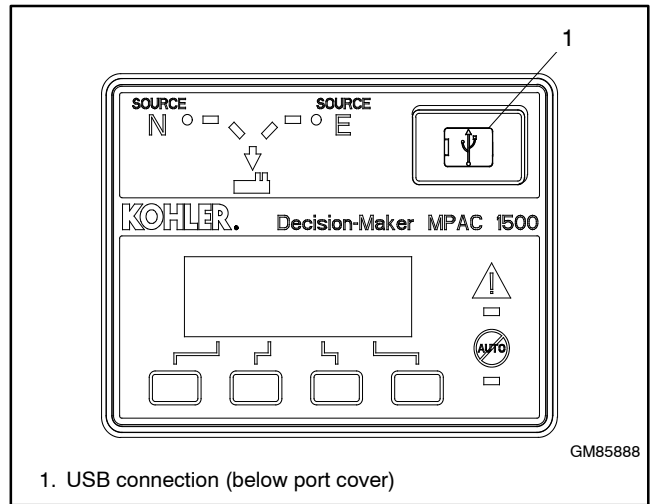

Figure 7-3 USB Connection for SiteTech
1. Use a USB cable to connect your laptop PC to the MPAC controller. See Figure 7-3.